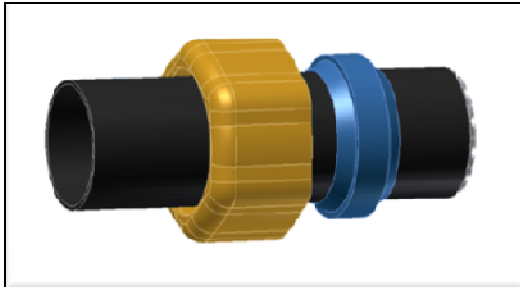

Fig. 1
3. Put the Nut and gland packing onto the conduit (see fig. 1).